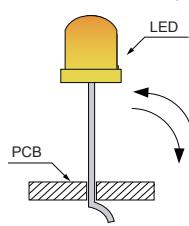

Fig. 9
6. Do not bend the leads more than twice. (Fig.9)